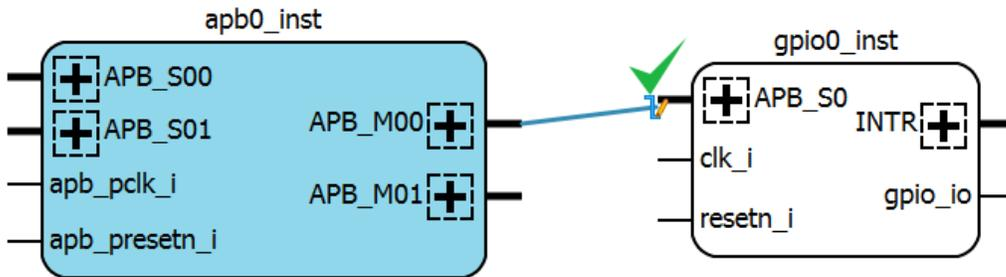

Figure 2.44. Draw a Pin or a Port
1. Move the cursor to a pin or port. The cursor changes to a pencil icon . Click and hold while dragging to another pin, port, or net. An allowed pin or port shows a green checkmark when you hover over it (Figure 2.44). An allowed net becomes bold when you hover over it (Figure 2.45).